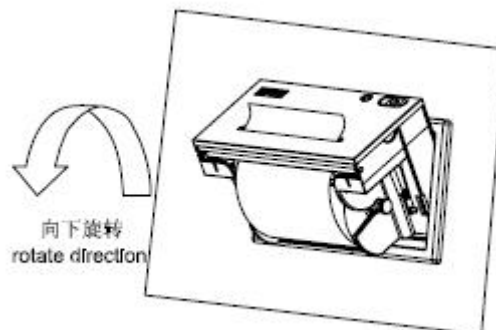

Figure 2-6
(5) Hold two sides of inner shell, rotate inner shell downward as figure2-6, and push it inward as the same time.